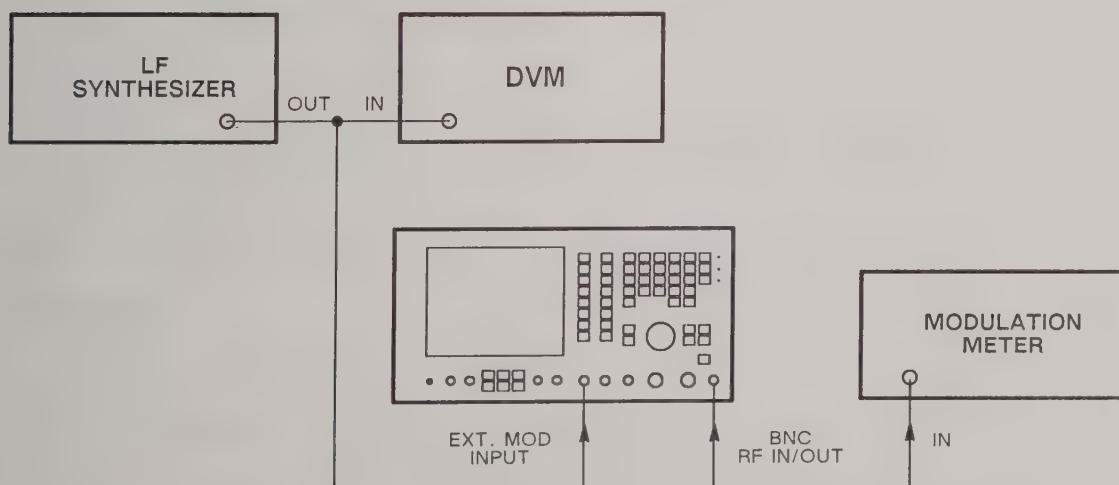

Fig. 6-25. Test equipment connections for RF generator external AM and FM
- (1) Connect the LF synthesizer and the DVM to the EXT MOD INPUT socket. Connect the modulation meter to the RF IN/OUT BNC socket. See Fig. 6-25.
- (2) On the 2955A, set the MODE to RECEIVER TEST, GEN FREQ to 100 MHz, LEVEL to 0 dBm, MOD to AM, MOD FREQ to 1 kHz, MOD LEVEL to 0%, SHAPE to SINE, DIST'N, S/N and SINAD to off and RF IN/OUT socket to BNC.
- (3) Set the synthesized LF generator to give a 1 kHz sinewave output and adjust the level to give a DVM reading of 530 mV RMS (1.5 V p-p).
- (4) Set the modulation meter to AM in a 0.3 to 3.4 kHz bandwidth.
- (5) On the modulation meter, check that the reading is $30\% \pm 10\% \pm 1\%$ AM (i.e. 26 to 34%).
- (6) On the 2955A, reset MOD to FM, LEVEL to 0 kHz.
- (7) Set the synthesized LF generator to give a 1 kHz sinewave output and adjust the level to give a DVM reading of 353 mV RMS (1.0 V p-p).
- (8) Set the modulation meter to FM in a 0.3 to 3.4 kHz bandwidth.
- (9) On the modulation meter, check that the reading is 5 kHz $\pm 10\%$.
- (10) On the 2955A, reset MOD to AM, LEVEL to 0%.
- (11) Repeat (3) to (9) at other external modulating frequencies between 50 Hz and 15 kHz.